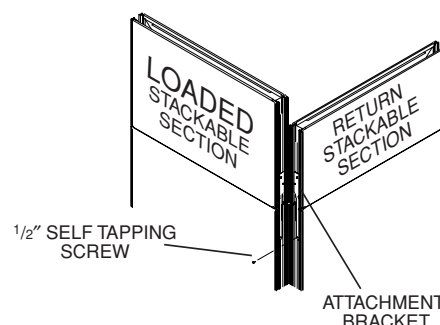

FIG. 4
11. When a stackable panel section is used as a return for a loaded stackable section, or a loaded standard panel, an additional 1/2" self tapping screw should be driven through the leg of the attachment bracket and into the full panel trimrail. Drill a 1/8" pilot hole into the trimrail of the full panel first, using the bracket leg as a guide (Fig. 4).